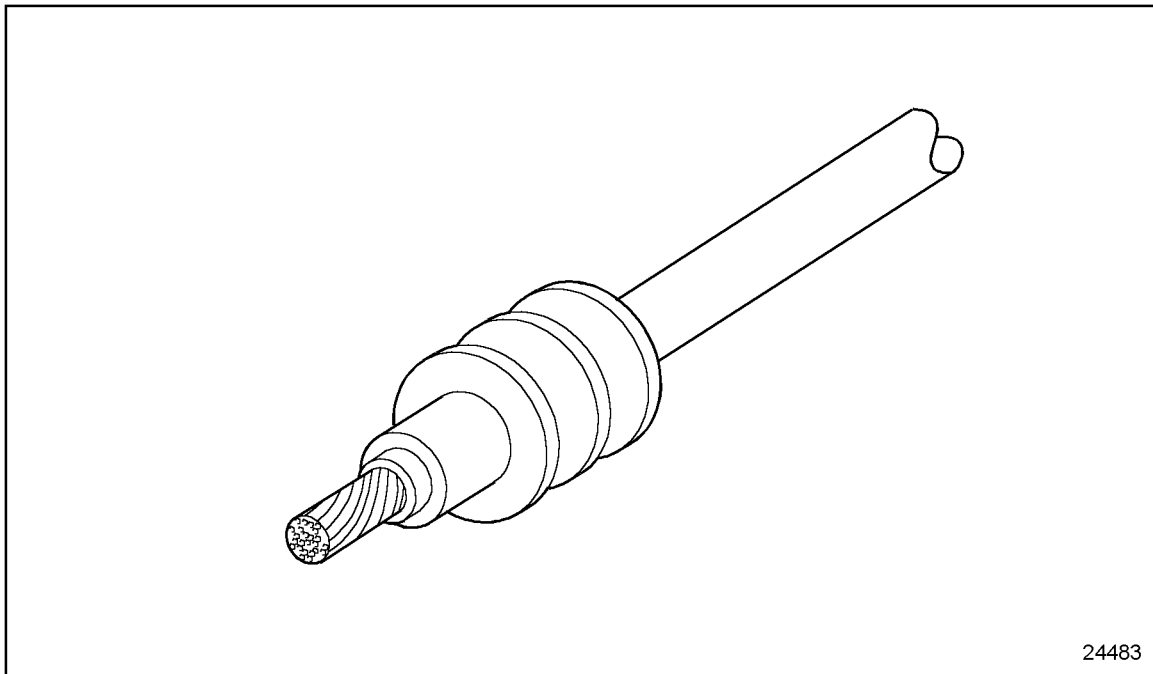

Figure 3-32 Seal Positioning
1. Position a seal on each terminal lead so 5.0 ± 0.5 mm ($.20 \pm .02$ in.) conductor and 1.0 ± 0.1 mm ($.05 \pm .005$ in.) cable protrudes past the seal after being stripped (see Figure 3-32).